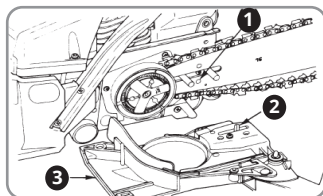

Fig. 2
5. Place the cutting chain around the chain sprocket and onto the guide bar - the sharp cutting edges of the teeth should face to the right (Fig. 18). Adjust the position of chain tensioner nut on the chain cover to the lower hole of guide bar (Fig. 2)